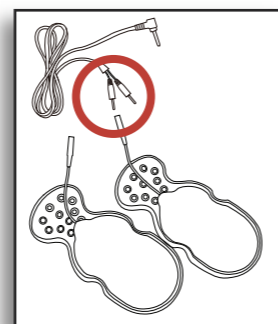

Figure 7
Gently increase intensity setting by holding down the button "∧". Or decrease intensity setting by holding down the button "∨". The intensity level is adjustable between 0 and 40. (See Figure 7).
2. Connect pin of the cable to the gel pad. (See Figure 7).